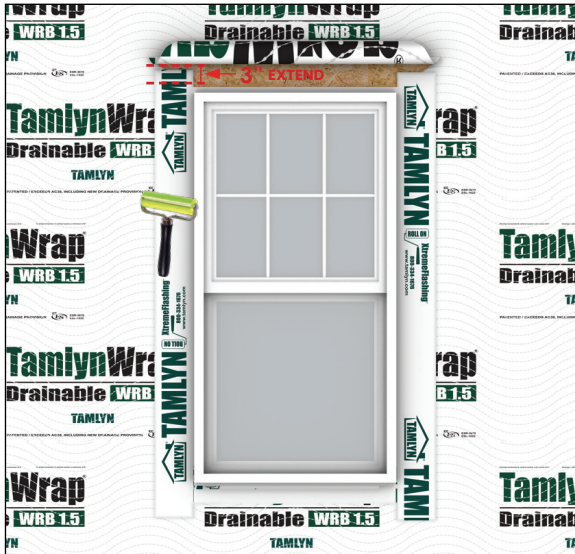

FIG 8:
- Adhere vertical sections with **XtremeFlashing™ Tape** over the jamb flanges. Extend vertical flashing approximately 3" above the window head and below sill flashing as shown in **(FIG 8)**